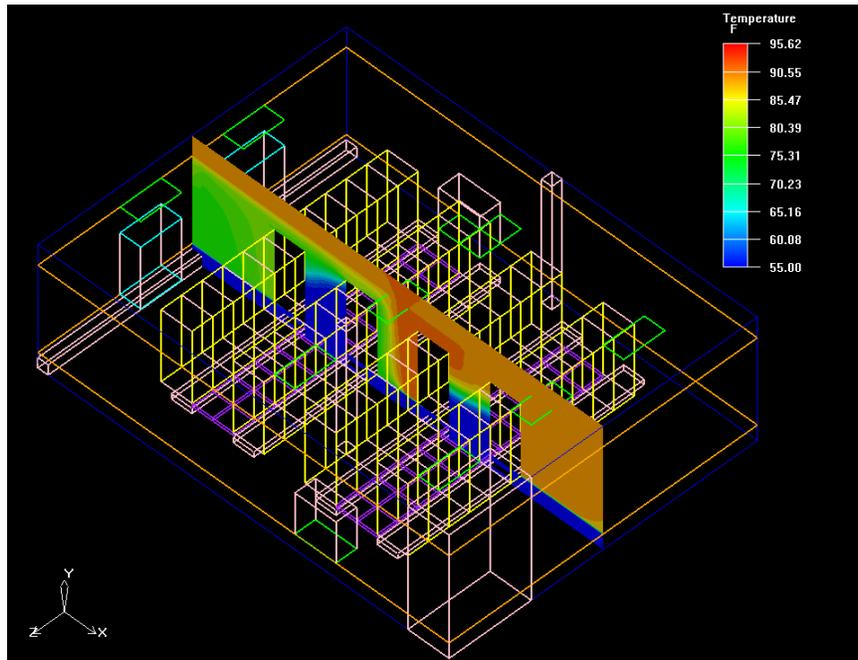

Figure 5.43: Contours of Temperature Display
- (d) Check the **Show contours** option and click **Create** on the **Plane cut** panel. The display will be updated to show the contours of temperature on the **XY** plane in the center of the datacenter as shown in Figure 5.43.